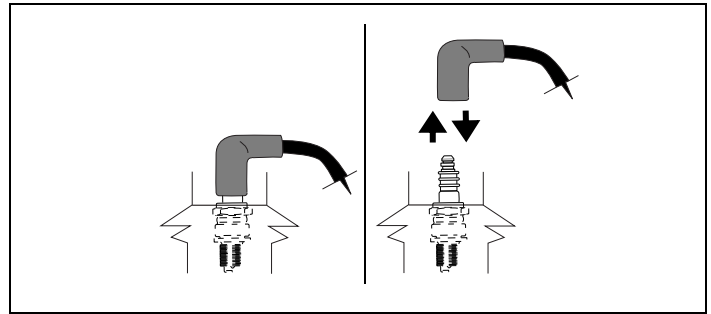

Figure 19. Disconnecting/Connecting Spark Plug
1. Disconnect spark plug wire and keep it away from spark plug. See Figures 19 and 20.